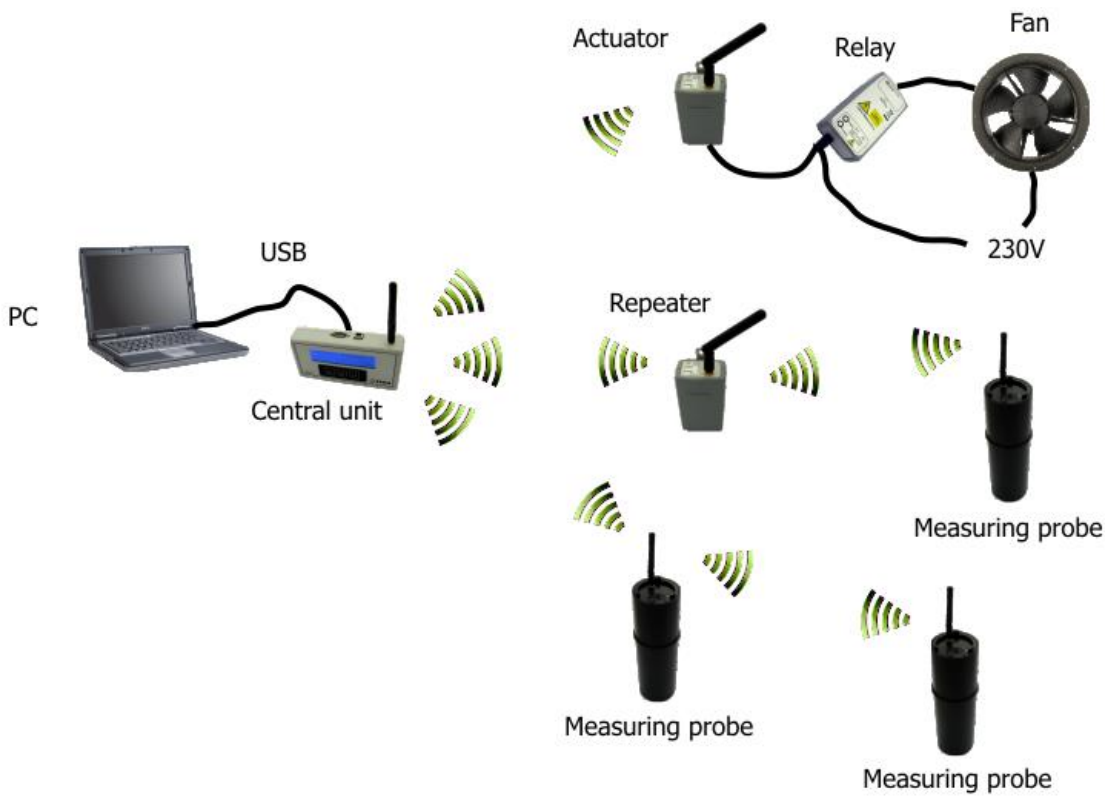

Figure 2 - TCR4 terminal in TERA System for Regulating Radon Concentrations
- B) TERA System for Regulating Radon Concentrations (Figure 2)